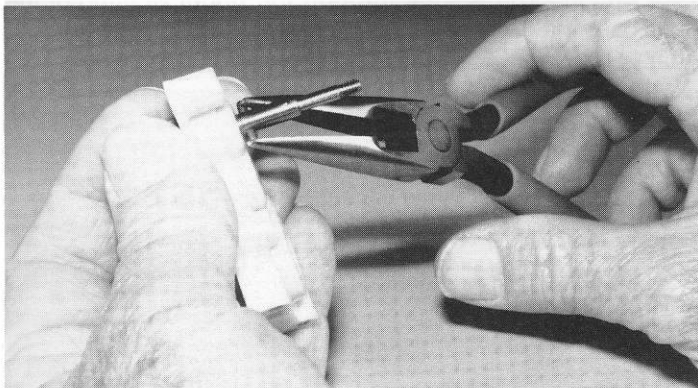

**Fig. 59**
□ **Figs. 58 & 59** Open bag D and remove the #6571 drive gear assembly. Carefully deburr the roll pin hole in the drive gear so the hole is not blocked and there are no raised edges around the hole. Check both sides of the hole. We are doing this to make sure the roll pin will fit and that the bearing will slide on the shaft. Now take the #6571 drive gear and insert the shaft through the upper bearing of the right case half so that the shaft is to the outside and the gear is inside against the bearing as shown in fig. 59.